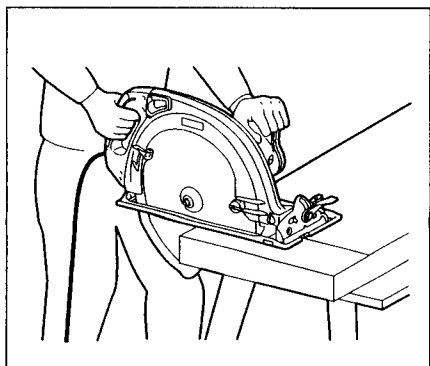
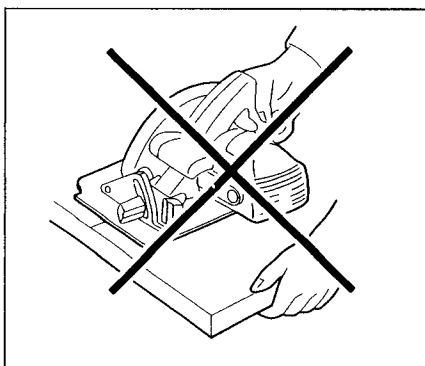

Fig. 5
Fig. 6
22. **Place the wider portion of the saw base on that part of the workpiece which is solidly supported, not on the section that will fall off when the cut is made.** As examples, Fig. 5 illustrates the **RIGHT** way to cut off the end of a board, and Fig. 6 the **WRONG** way. If the workpiece is short or small, clamp it down. **DON'T TRY TO HOLD SHORT PLACES BY HAND!**